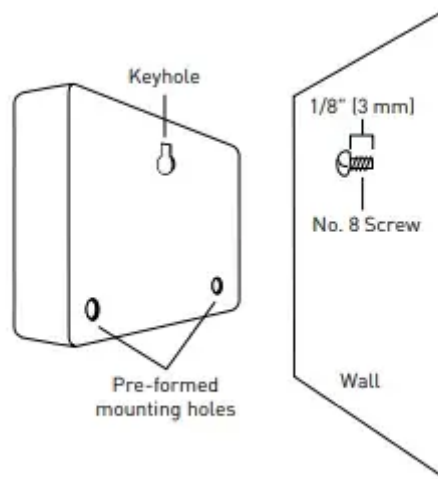

Figure 2: Hang timer on screw using keyhole
- Slip the timer over protruding screw (using keyhole slot in back of timer). See figure 2.
- Drive a No. 8 screw through one of the two pre-formed holes located in lower corners of the cabinet. See figure 2.